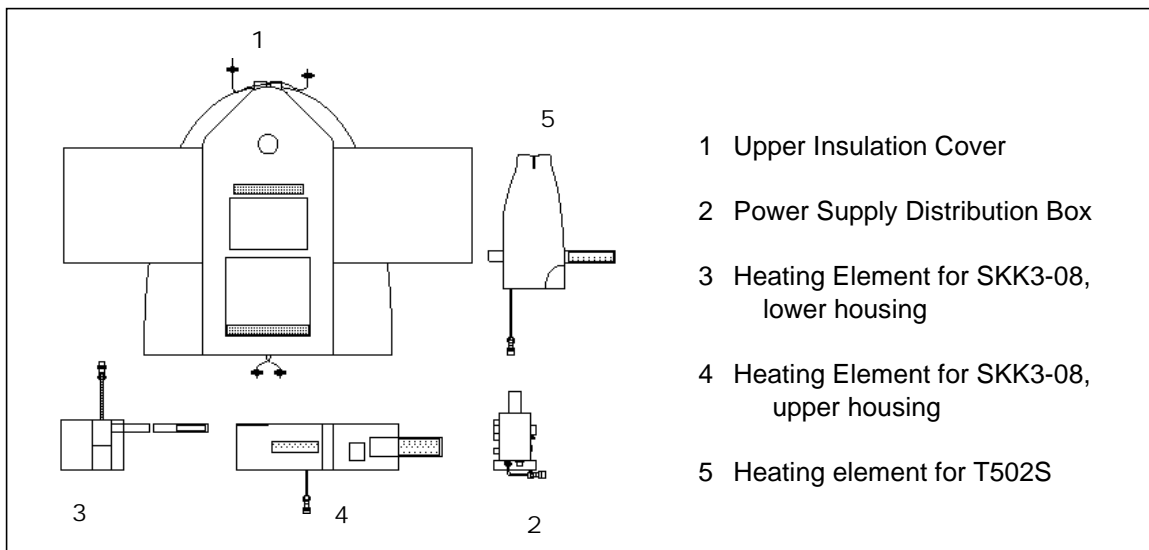
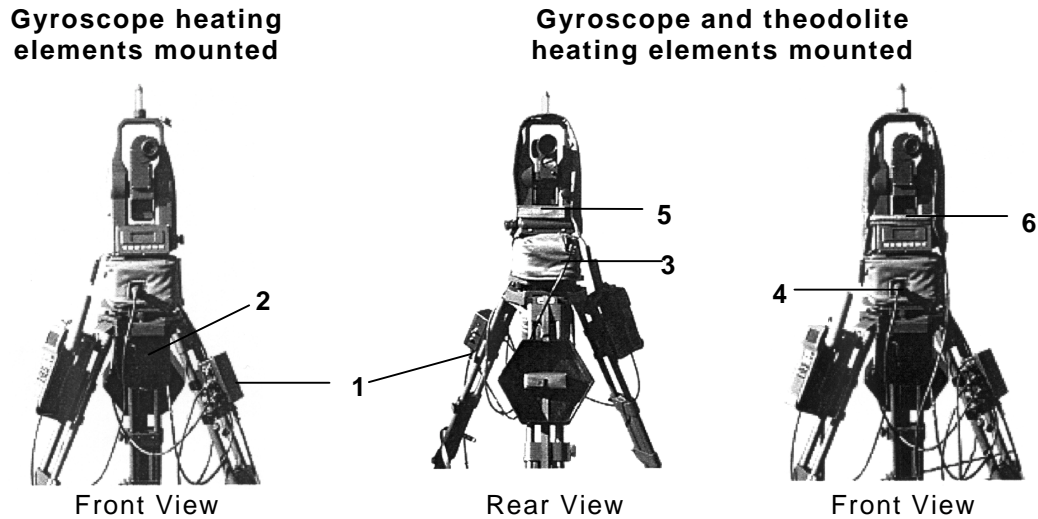

Figure 2-8. SVP250 Winterization Kit Components
Figure 2-9. Power Supply Mounting
- a. Attach SEV22-1 power adapter to the back of the gyroscope to power the system. Do not use the SEB42-1 battery if the external temperature is below the minimum operating range for the battery. Mount the power supply distribution box (1) on a tripod leg.
- b. Mount the heating element for SKK3-08 gyroscope lower housing (Figure 2-8 item 3) over the lower housing (2) as shown in figure 2-9. Fasten the velcro tab on the mounting band to secure the heating element in place.
- c. Mount the heating element for the SKK3-08 gyroscope upper housing (Figure 2-8 item 4) by placing the rear mounting band over the power adapter and cable (3) and securing with the velcro closure. Wrap the heating element around both sides of the gyroscope with the opening over the PLGR data port on the face of the gyroscope (4) as shown in Figure 2-9. Secure the in place with the velcro closure.
- d. Mount the heating element for the T502S theodolite (Figure 2-8 item 5) by first placing the target rod and connector located on the operating handle of the theodolite through the hole provided in the center of the heating element. The connecting band on the back side of the element should be positioned on the back side of the theodolite (5) as shown in Figure 2-9. Secure the mounting band (6) with velcro closure.